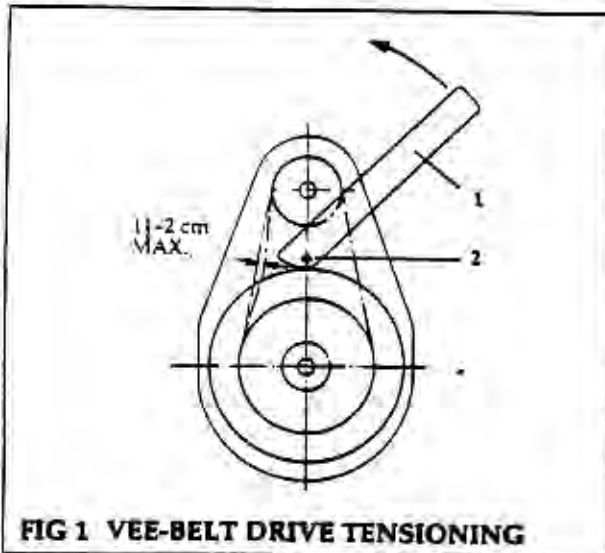

FIG 1 VEE-BELT DRIVE TENSIONING
Vee-Belt Drive Tensioning (Fig 1)
- (1) Remove the drive cover.
- (2) Check belt tension. The belt should be capable of being depressed approximately 1.5 to 2 cm by application of average thumb pressure (see Fig 1).
- (3) To adjust: fit spanner (1) provided, to adjusting screw (2), located at motor support bracket and turn in an anticlockwise direction to tension the belt drive (see Fig 1)